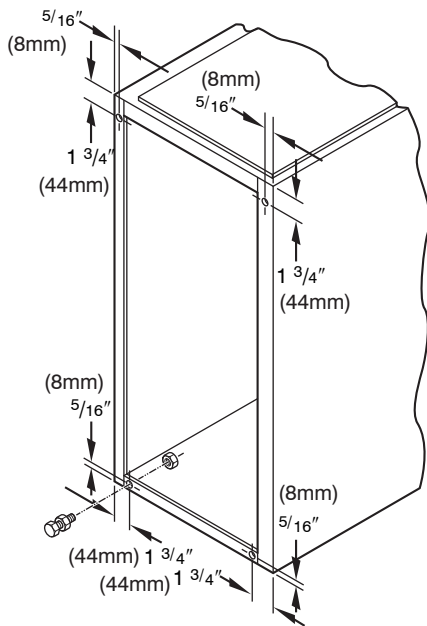

Fig. 10 - Leveling Legs
In upflow position with side return inlet(s), leveling legs may be used. (See Fig. 10.) Install field-supplied, $5/16 \times 1\text{-}1/2 \text{ in.}$ (8 x 38 mm) (max) corrosion-resistant machine bolts, washers and nuts.
1. Position furnace on its back. Locate and drill a hole in each bottom corner of furnace. (See Fig. 10.)